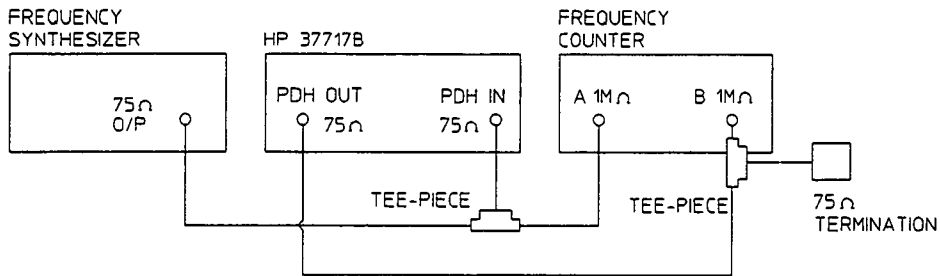

Figure 3-34. Receiver Frequency Measurement Test Setup
2. Connect up the equipment as shown in Figure 3-34.